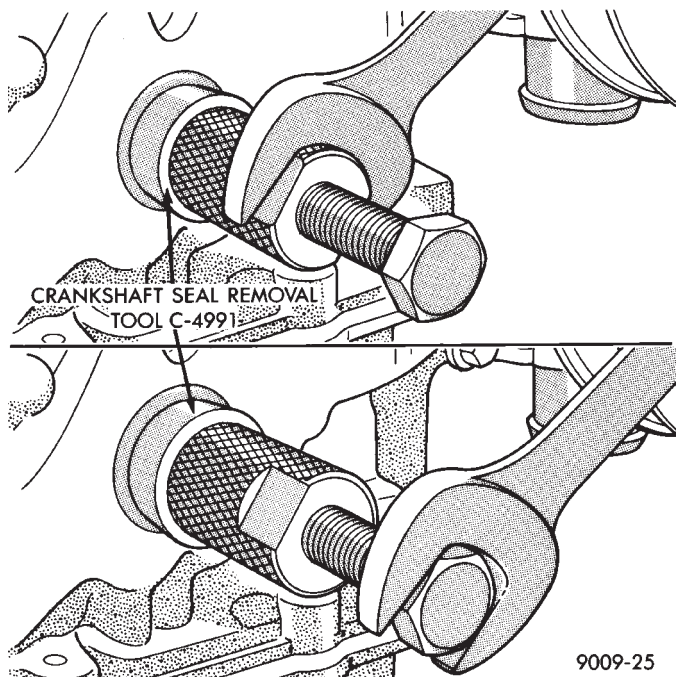

Fig. 9 Removing Crankshaft Oil Seal
(4) Using Tool C-4991 to remove oil seal (Fig. 9). Be careful not to damage that crankshaft seal surface of cover.